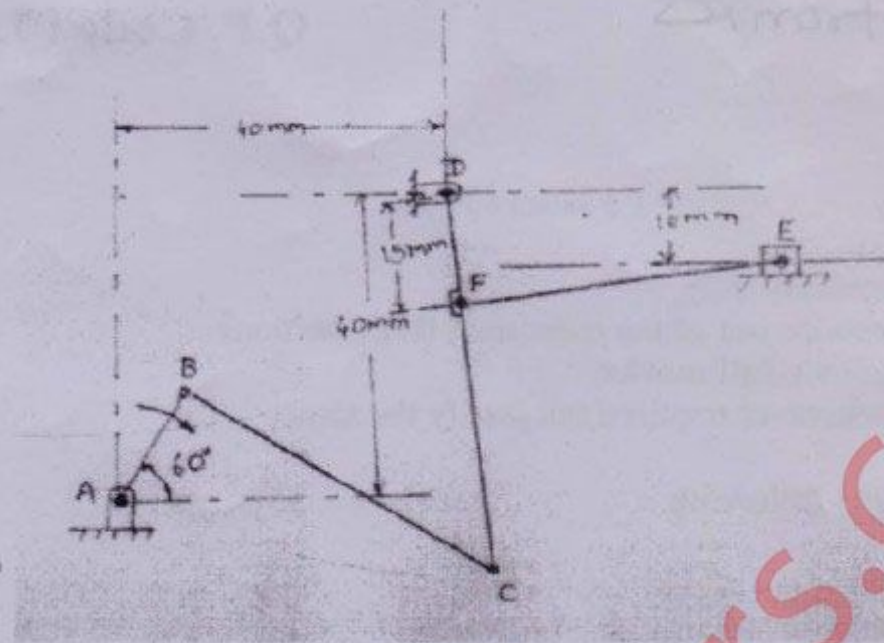

Figure 2
3. (a). In the mechanism shown in figure 2 dimensions of various links are $AB = 15\text{mm}$, $BC = 45\text{mm}$